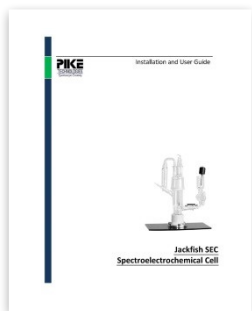

Fig. 11) Alternative, more challenging assembly method to mitigate the risk of breaking wafers without using the nylon pin-retaining screws.
**IMPORTANT:** There is a small chance of breaking a wafer due to the impact of the pin. To eliminate this chance, it is possible to omit the nylon pin-retaining screws during assembly. It is challenging to assemble the cell by this alternative method since neither the pins nor the wafer are held in place. The basal plane of the cell needs to be held nearly vertically (Fig. 11). Take care that the wafer does not fall out and break.